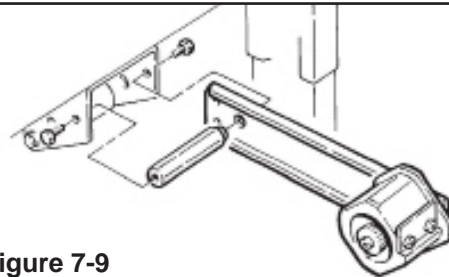

Figure 7-9
- 4 - Install and secure tape drum bracket assembly on the entry end of the lower frame (as shown in **Figure 7-9**).